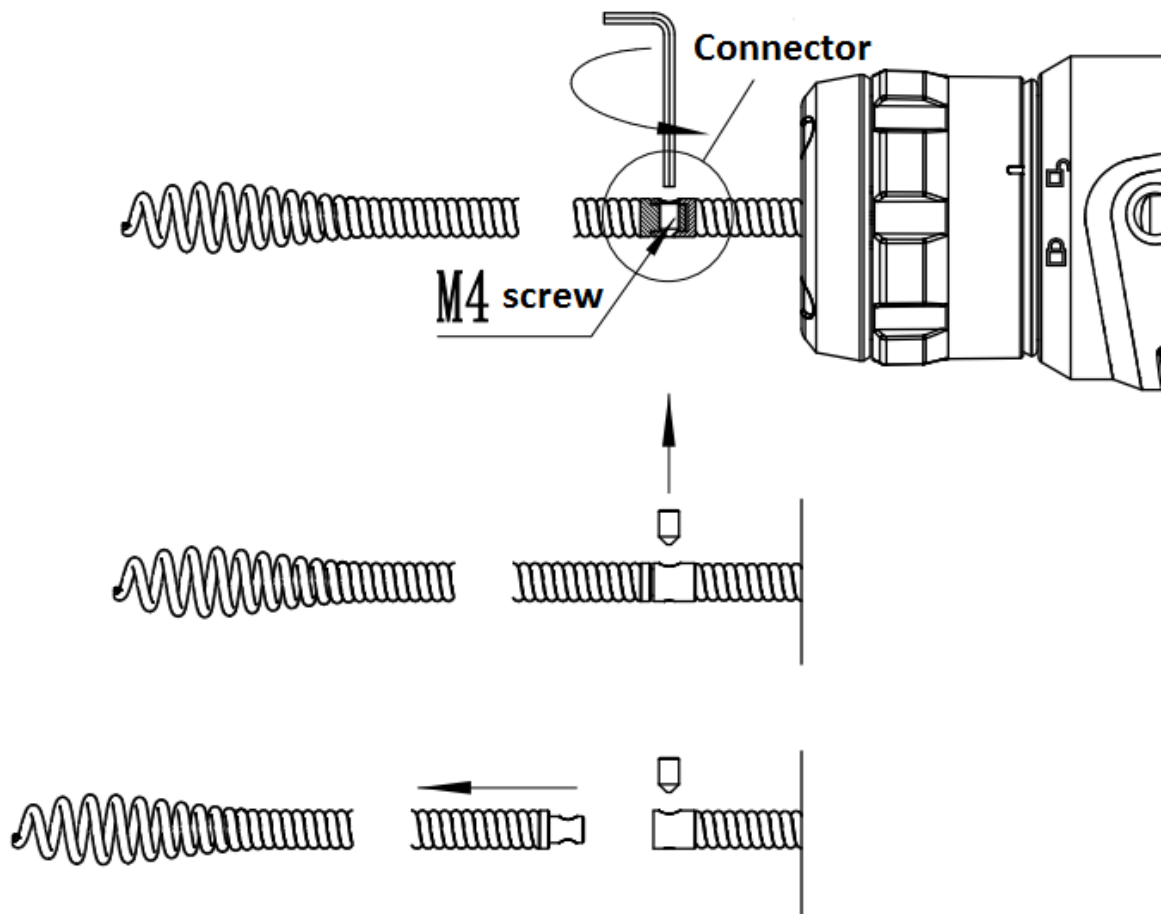

Figure 8
3. Loosen the M4 threaded screw with an Allen wrench and remove the shaft (Fig. 8).